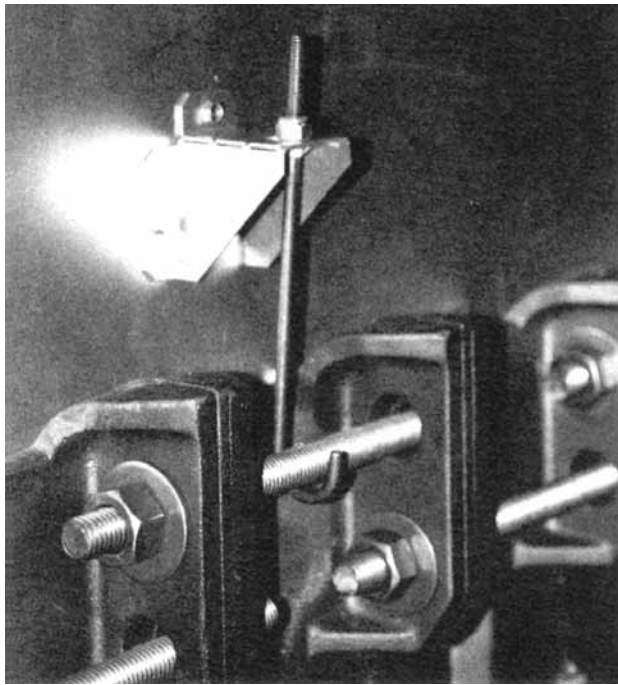

Figure 17: Left Side Canopy Intermediate Bracket
2. Attach the two (2) canopy brackets to the front end cap of canopy with four (4) #10 x 1/2" sheet metal screws each.
10. Attach either the rear flue outlet damper assembly or rear outlet canopy cover to the canopy with the 5/16" flat washers, lock-washers and brass nuts and tighten securely. Attach the rear flue outlet damper assembly or cover to the back section with the four (4) 5/16" flat washers and cap screws and tighten securely.
12. On the longer canopy sizes, Intermediate Mounting Brackets are provided, two (2) are required on sizes V907A thru V909A and four (4) are required on sizes V910A thru V912A. Refer to Figures 17 and 18.
- b. Secure brackets to both sides of canopy with three (3) #10 x 1/2" sheet metal screws per bracket.
on center section draw-up rod (hooks should face outward). Secure canopy with 5/16" flat washers, lock washers and brass nuts. See Figure 17.